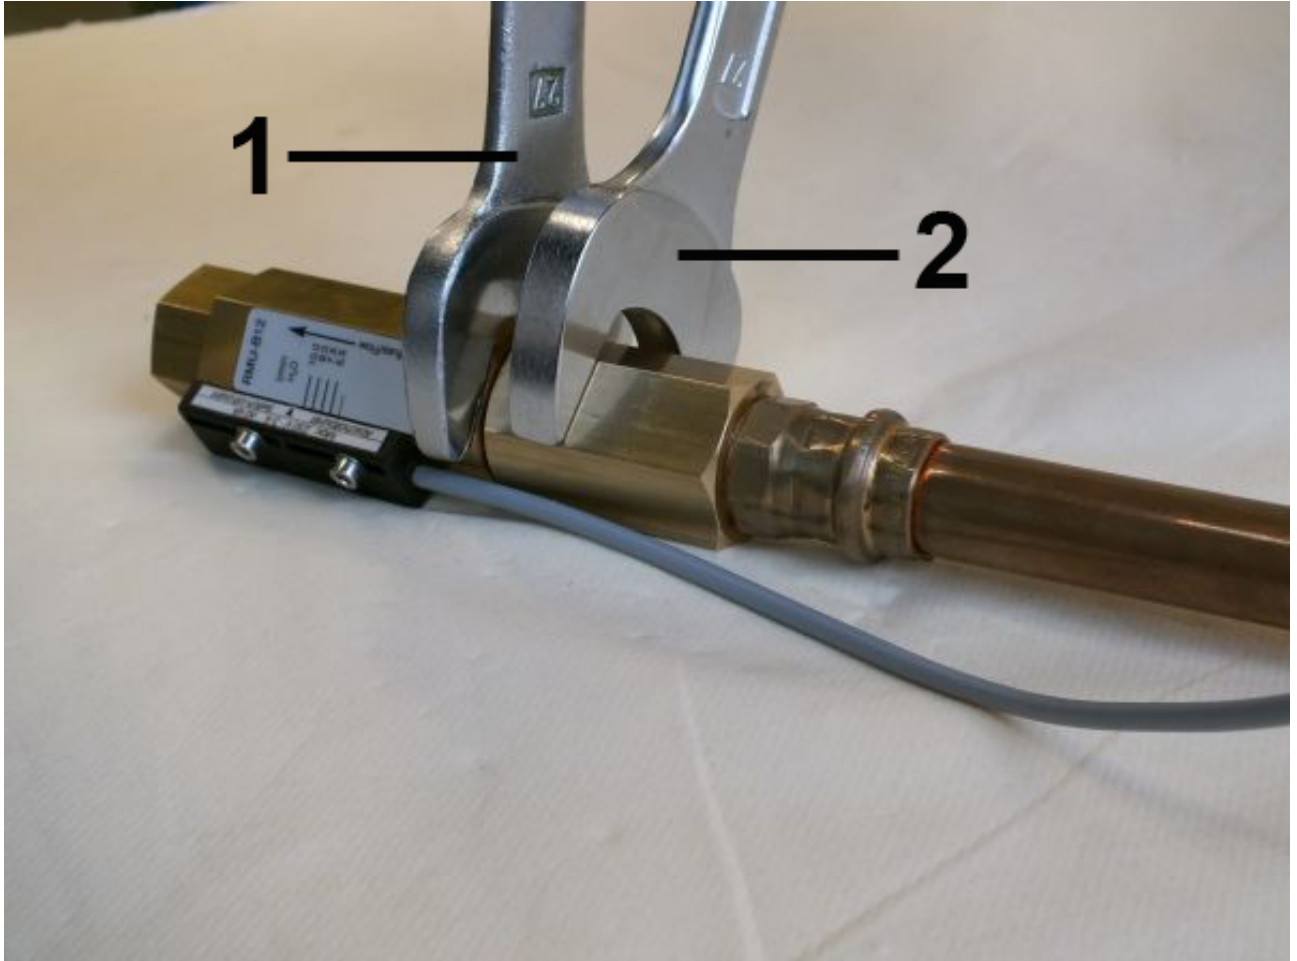

Fig. 13: Screw in the device (inlet)
2. ➤ Fasten the adapter union of the pipe line with an appropriate spanner (*Fig. 13/2*). When doing so, lock the process connection of the device in place to prevent slip, using a suitable spanner (*Fig. 13/1*).
4. ➔ Fasten the adapter union of the pipe line with an appropriate spanner (Fig. 13/1). When doing so, lock the process connection (outlet) of the device in place to prevent slip, using a suitable spanner (Fig. 13/2).